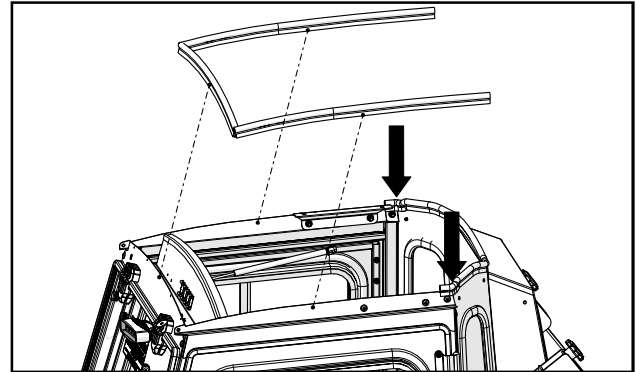

Fig. 1.5 (Rubber Seal Modification)
- 1.6** Referring to Figure 1.5, cut the bulb rubber at the corners indicated with arrows. Discard the small pieces and leave the remainder on the cab.